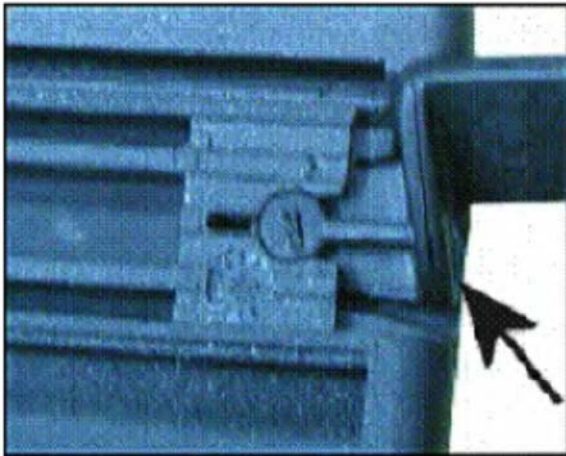

Figure 1
- Using a flat blade screw driver, lift damaged or broken friction pad(s) up and away, see figure 1.